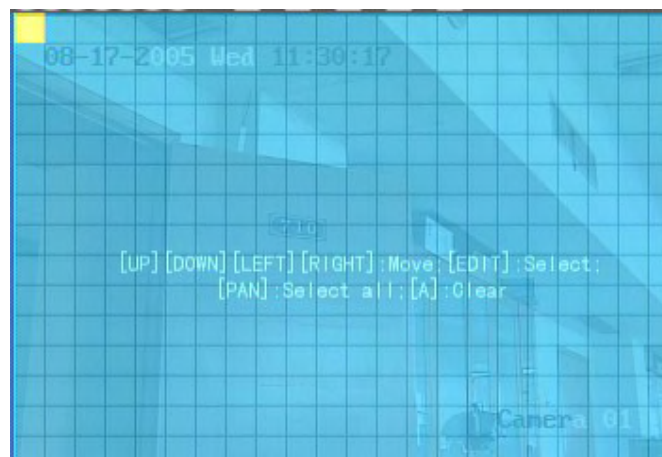

Fig 5.17 Motion area setup
Step 4: Motion area setup: You must define motion areas so that DVR will response when there is motion in those areas. Move “Active Frame” to “Area” button on the right side of sensitivity list box, press 【ENTER】 key, you can enter into “Motion Area Setup” interface. Shown as fig 5.17.